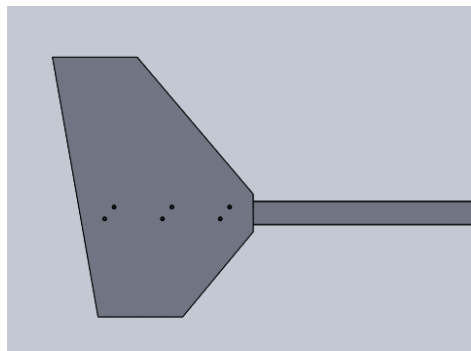

Figure4
(4) Flange and blades mounted generator rotor shaft and tight flat the flange with the M16 nut and elastic cushion
(5) Fixed front cover at the rotor shaft. with M6 cross screws and flat elastic cushion
(6) Assemble the tail plate and tail rod direction as shown Figure 4, with M6*16 round head cross screws and the flat washer (6 * 14) and elastic cushion.